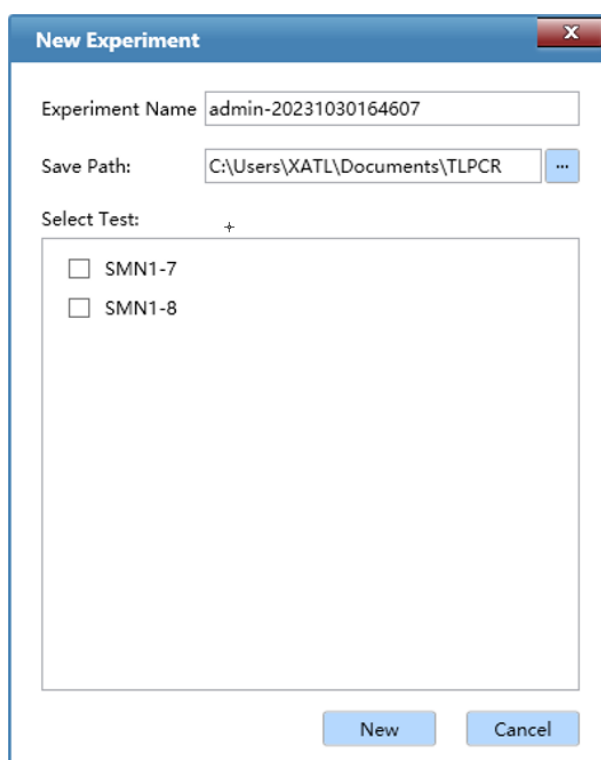

Figure D-2.1c. Quick Start Bar - New Experiment from Test Template
- Click < **New Experiment from Test Template** > and the new experiment window will automatically pop up, as shown in figure D-2.1c. User can input the **Experiment Name** and select the **Save Path** for the new experiment. According to the specific test item of the new experiment, user can select the test template and click < **New** >, the application software will create a new experiment file with same experiment settings as the selected test template.